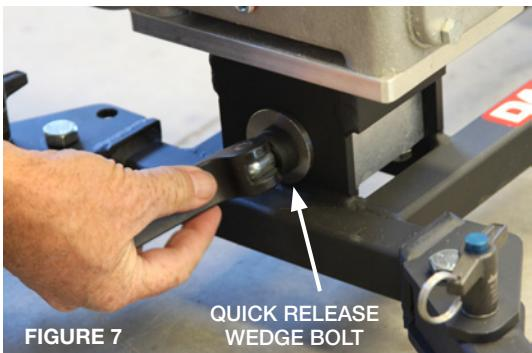

FIGURE 7
6. Install Quick Release Wedge Bolt through Gearbox Assembly and the Mounting Weldment. Be sure to check that it has gone through the entire Mounting Weldment. Tighten the Quick Release Lever and push in to lock down and secure. **(Figures 7,8, & 9)**